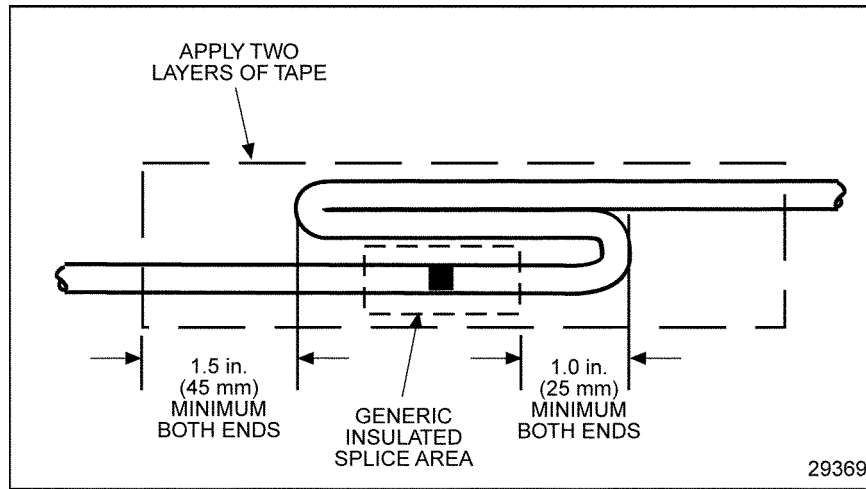

Figure 3-33 Recommended Strain Relief of Spliced Joint
6. Loop the lead back over the spliced joint and tape. See Figure 3-33.
8. Loop the lead back over the spliced joint and tape. See Figure 3-33.
9. Loop the lead back over the spliced joint and tape. See Figure 3-33.